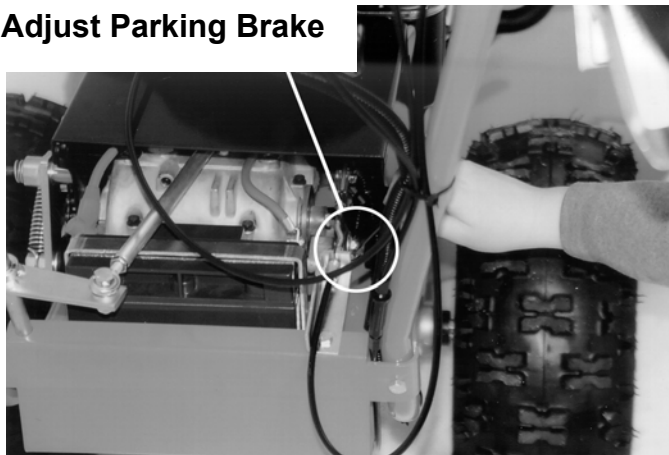

Figure 26
- To adjust the parking brake, tighten or loosen the nut shown in *Figure 26*. Tightening the nut will increase pressure and loosening the nut will decrease the pressure on the brake pad.